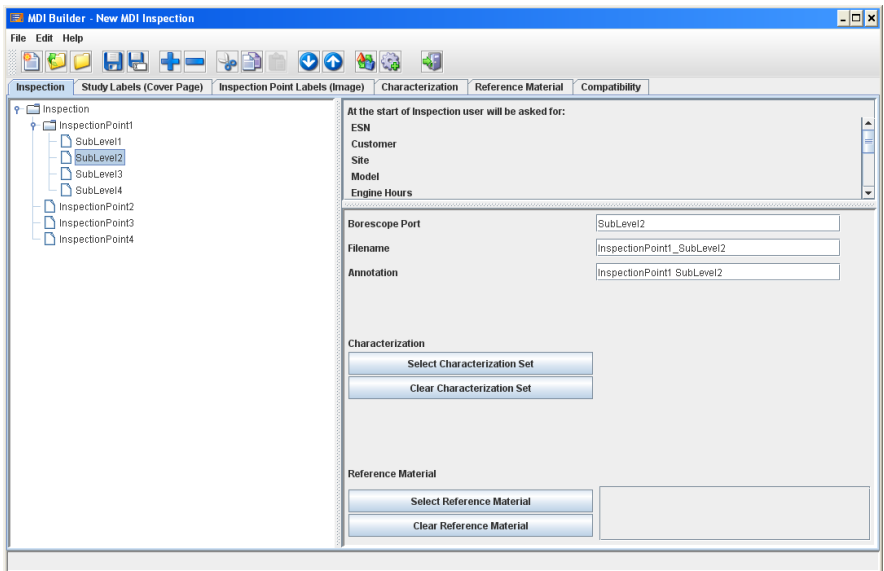

Figure 19: Automatic Filenames and Annotations
MDI Builder automatically constructs your file names based on the structure of your inspection tree. For example, in *Figure 19* below the first level of the inspection tree is “*InspectionPoint1*” (1) and the highlighted second level is “*SubLevel2*” (2). The automatic file name for this inspection point is “*InspectionPoint1_SubLevel2XXX*” (3) and the automatic annotation is “*InspectionPoint1 SubLevel2*” (4).